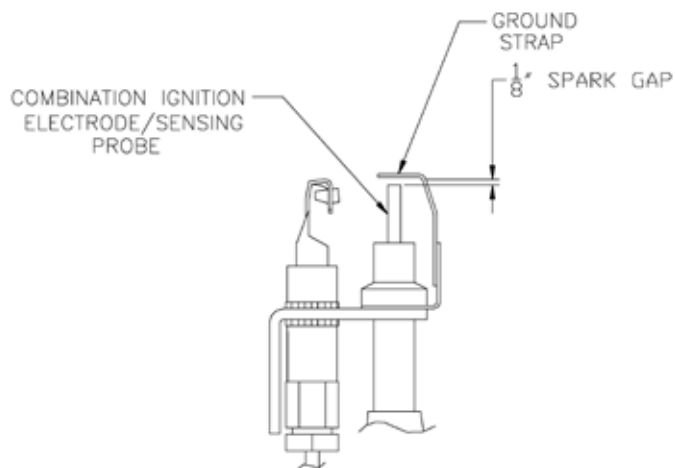

Figure 19: Spark Gap Setting
2. To adjust or check spark gap between electrode and hood on Honeywell Q348A intermittent pilot. See Figure 19.